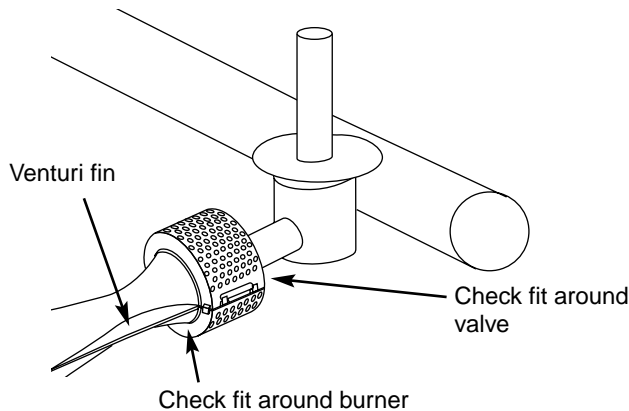

Figure 16
- i) Reinstall the Spider Stopper Guards. Slightly rotate the Spider Stopper Guards so that the seams are in line with the Venturi fins. There should be no gaps in the seams or in the fit around the burners and valves. Figure 16.